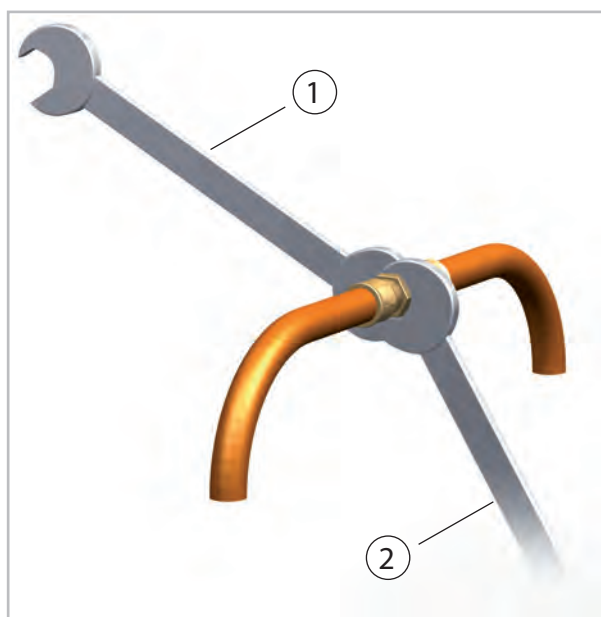

Fig. 37: Tightening the fitting
11. ➤ Then tighten the fittings with 2 appropriately-sized open-ended spanners. Use one spanner to counter the force when tightening the fitting (Fig. 37).